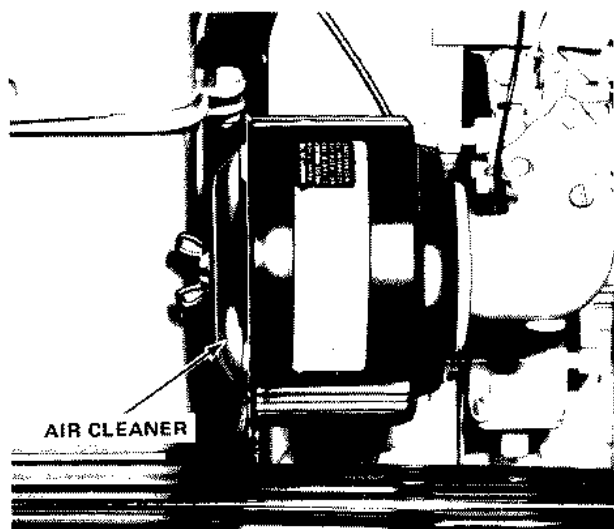

Figure 14
**AIR CLEANER** — See Engine Manufacturer's Manual and decal "VERY IMPORTANT" on air cleaner. (See Figure 14.)